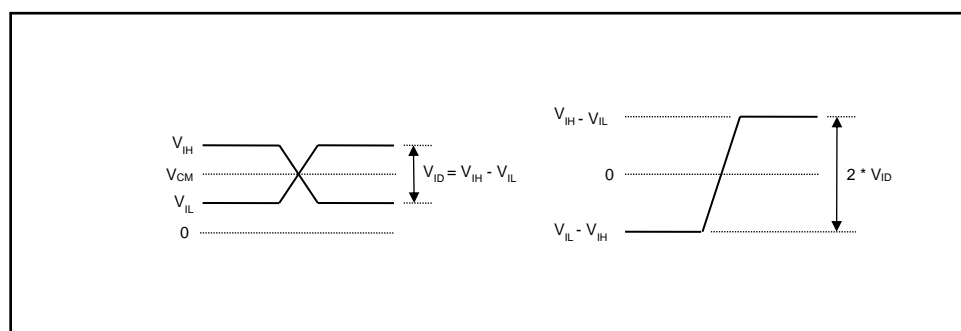

Figure 37. Differential Input Voltage Levels
**Input differential voltage is calculated as $V_{ID} = V_{IH} - V_{IL}$ where V_{IH} and V_{IL} are input voltage high and low respectively. It should not be confused with $V_{ID} = 2 * (V_{IH} - V_{IL})$ used in some datasheets. Please refer to Figure 37.